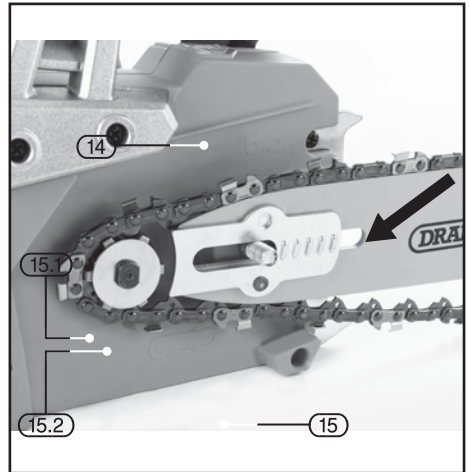

FIG.2
- Take care that the saw chain tensioning bolt (5.1) is seated exactly in the small opening in the bar (Fig 2). It must be visible through the opening. If necessary, adjust the knurling wheel of the saw chain tensioning device (5) in both directions until the saw chain tensioning bolt is seated in the opening in the bar.
- Moderately tighten the knurling wheel (5) by turning it clock-wise.